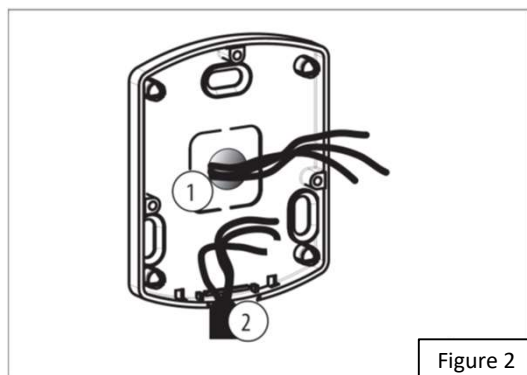

Figure 2
Referencing ?Fig.2, the AUTO-PROG is designed for the cables to enter from the back (1) or from underneath (2).